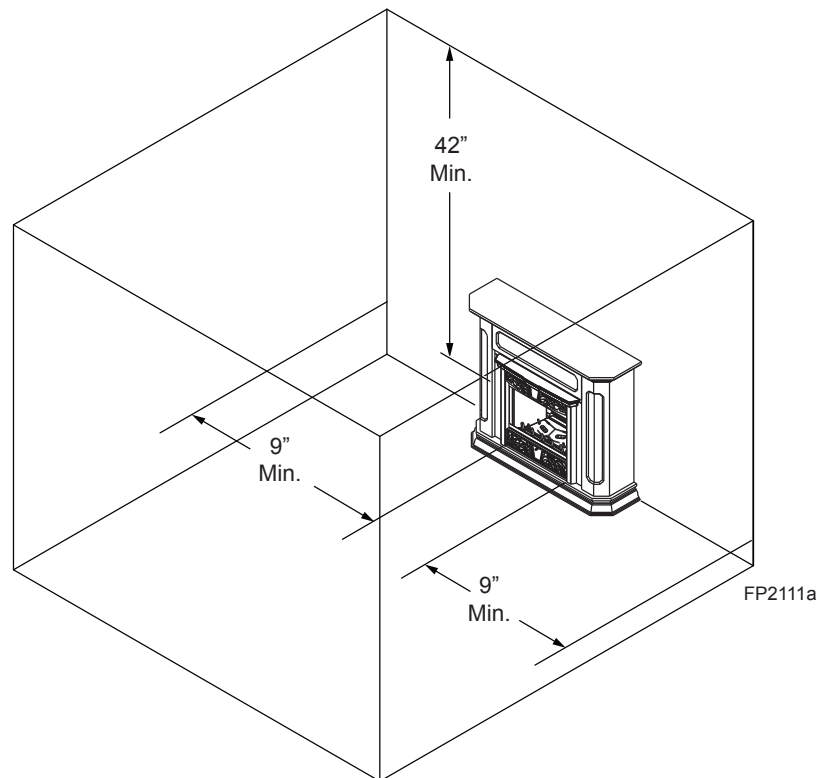

Figure 4 - Clearances and Height Requirements
Ensure that minimum clearances shown in *Figure 4* are maintained. Left and right clearances are determined when facing the front of the firebox.
1. **Sidewall Clearances** — The clearance from the inside of the appliance to any combustible adjacent wall should not be less than 9". *Figure 4*
2. **Ceiling Clearance** — The ceiling must be at least 42" from the top of the firebox opening. *Figure 4*
WARNING	<p>The dimensions shown in Figure 4 are minimum clearances to maintain in installing this heater. Left and right clearances are determined when facing the front of the heater.</p> <p>Follow these instructions carefully to ensure safe installation. Failure to follow instructions exactly can create a fire hazard.</p>